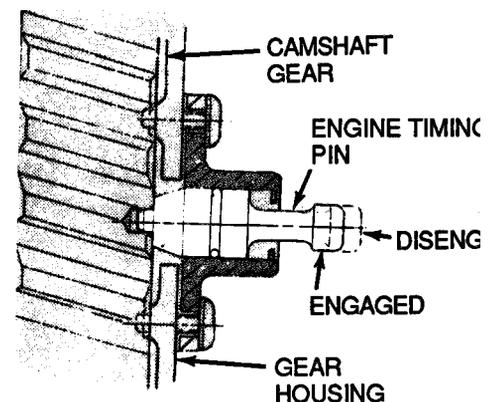

Figure 7-3
7. Disengage engine timing pin (Figure 7-3).